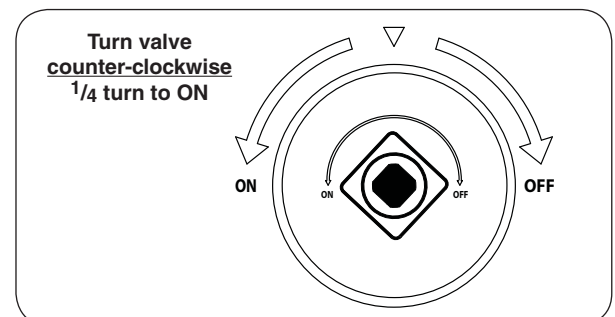

Fig. 39-2 ON/OFF key valve detail
3. Turn the ON/OFF key valve counter-clockwise a 1/4 turn to the **ON** position (Fig. 39-2).